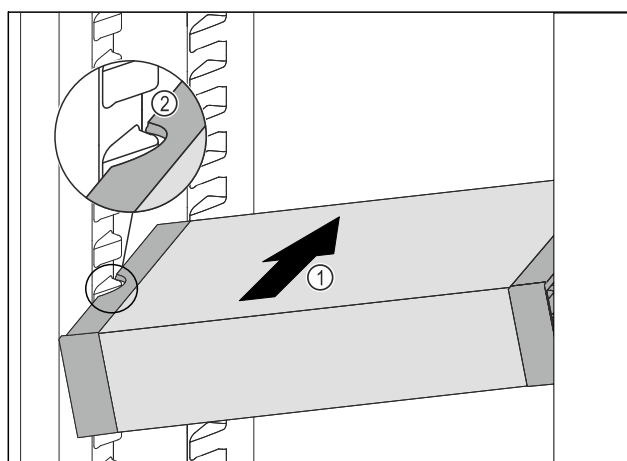

Fig. 112
- ▶ Insert the VarioSafe into the fridge section at an angle Fig. 112 (1) until the recesses in the side Fig. 112 (2) of the VarioSafe are at the level of the support rib in the fridge section.